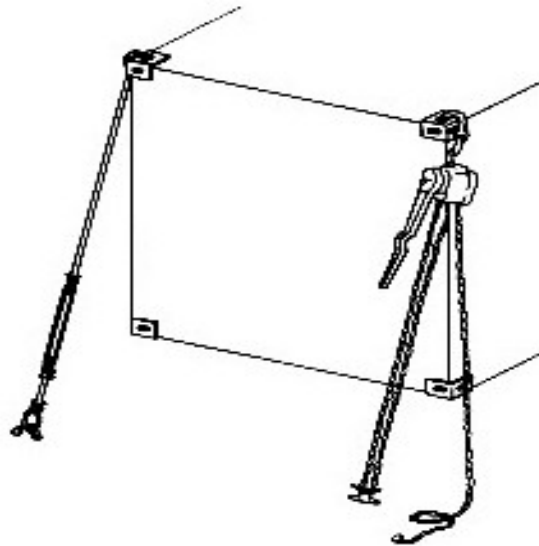

Figure 3-163
6. Ensure personnel stack containers no more than three (3) high.
7. Ensure personnel attach lashing assemblies to front and rear of containers (see Figure 3-163).